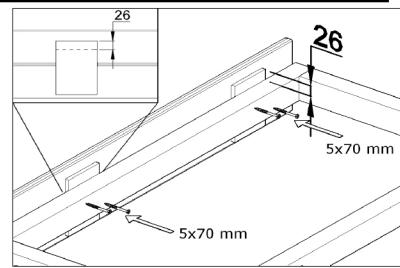

Figure 3
- Fasten the front plank to the frame with screws. (Figure 3)